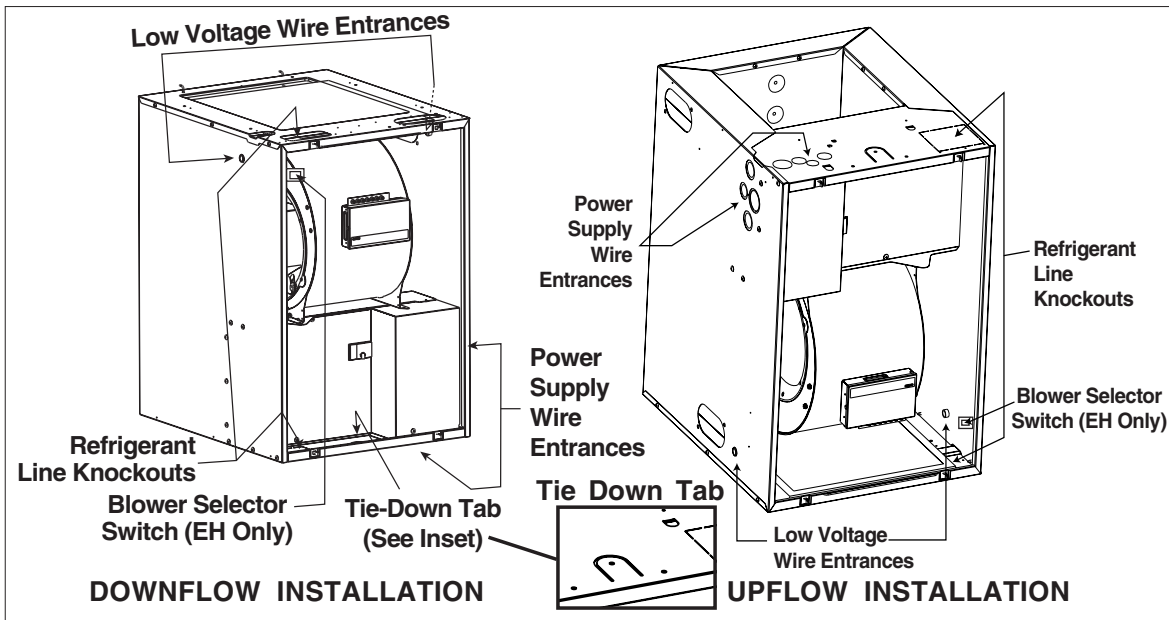

Figure 16. Downflow and Upflow Installations
1. Install 240V supply circuit(s) and 24V wiring to closet or alcove (see Figure 16 for appropriate locations).
- Secure front of unit with one or more fasteners at mounting hole(s) provided or at tie-down tab (see Figure 16).
3. Install 240V supply circuit(s) and 24V wiring to closet (see Figure 16 for appropriate locations).